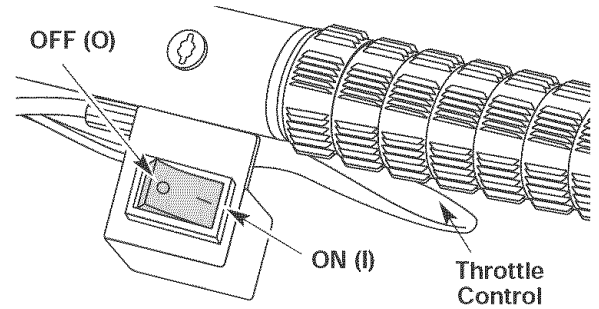

Fig. 8
2. Make sure the On/Off Stop Control is in the **ON (I)** position (Fig. 8).